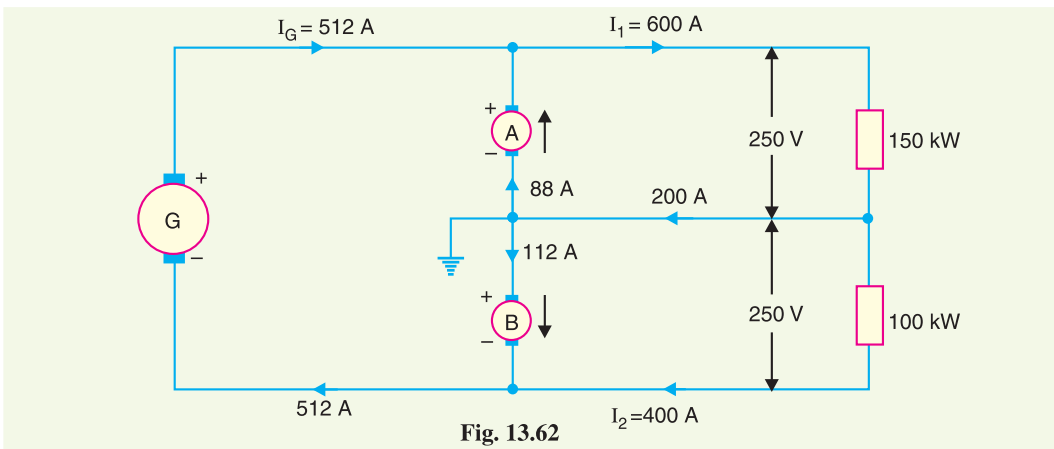

Fig. 13.62
**Solution.** The connections are shown in Fig. 13.62. As the positive side is more heavily loaded, therefore, machine A acts as a generator and machine B as a motor.